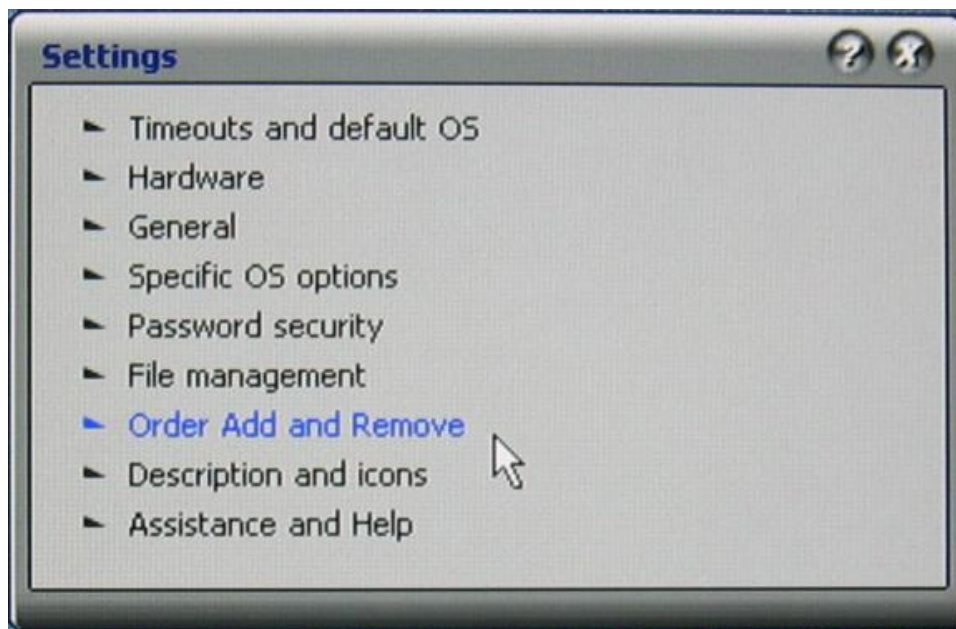

Figure 4-15 Order Add and Remove
6. From the 'Settings' window, select 'Order Add and Remove' as illustrated in Figure 4-15.